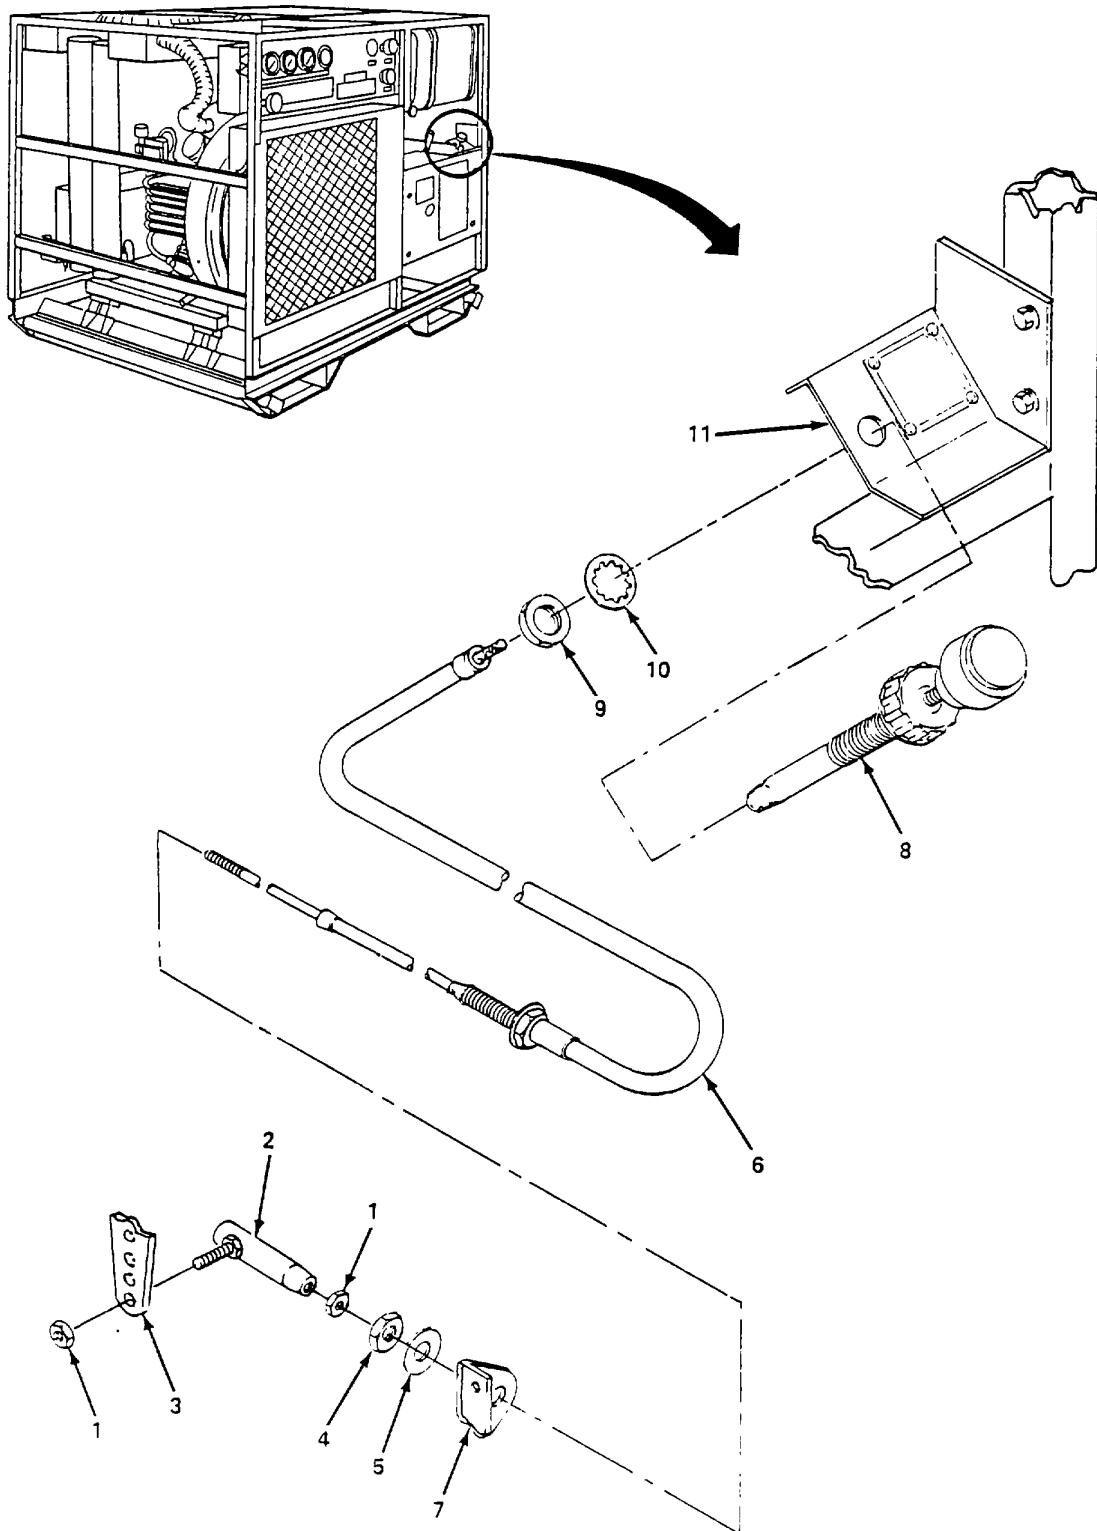

Figure 4-19. Throttle Control, Replace.
(10) *Throttle control.* (figure 4-19)
- (a) Loosen two nuts (1) and remove end fitting (2) from lever (3).
- (b) Remove nut (4) and washer (5).
- (c) Remove throttle cable (6) from bracket (7) and from throttle control (8).
- (d) Remove nut (9) and lockwashers (10) and remove throttle control (8) from bracket (11).
- (e) Install throttle control (8) and secure with lockwasher (10) and nut (9).
- (f) Install throttle cable (6) on throttle control (8) and through bracket (7).
- (g) Install washer (5) and nut (4).
- (h) Install end fitting (2) in lever (3) and tighten two nuts (1).